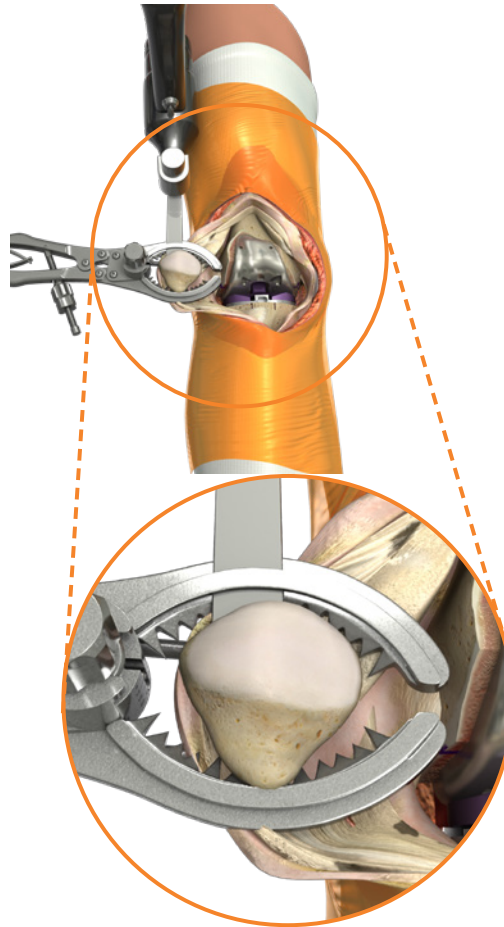

Figure 25b
6. Cut the patella through the dedicated saw guide (Figure 25b).